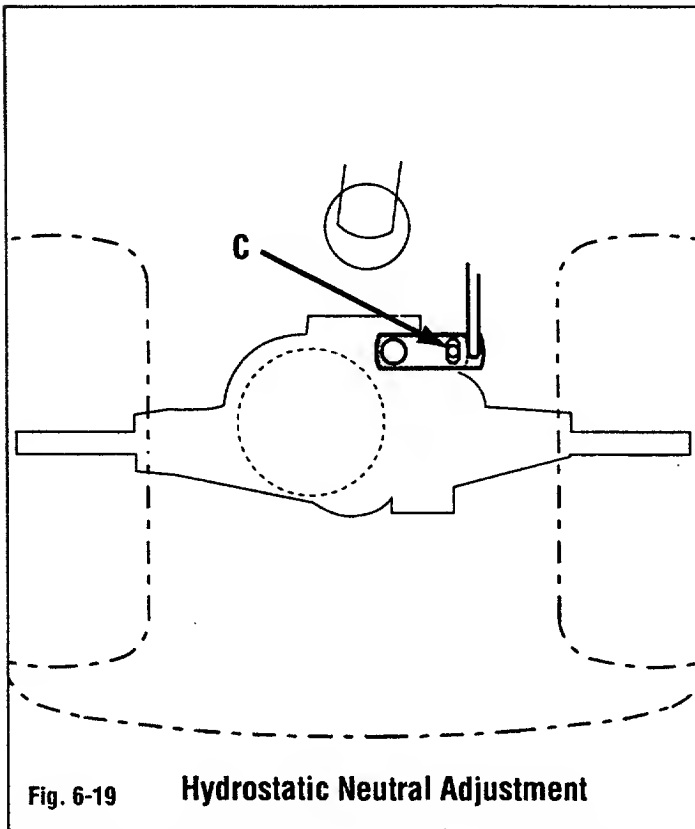

Fig. 6-19 Hydrostatic Neutral Adjustment
- Loosen hardware (C, Figs. 6-19 and 6-20) securing hydro control arm in place.